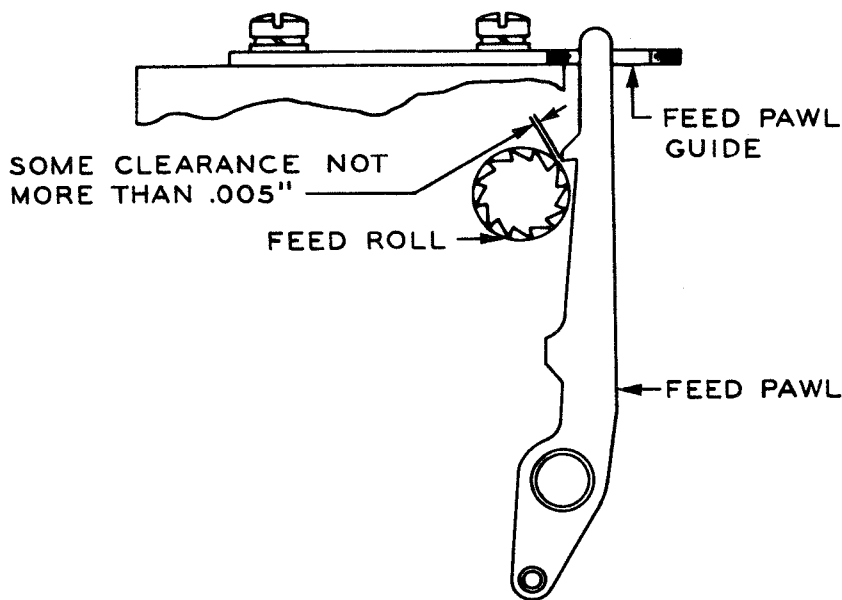

Figure 19
2.39 Feed-pawl Guide: There should be a clearance as specified in the figure between the feed pawl and the closest feed-roll tooth when the punch contacts are closed. Check one full revolution of the feed roll while holding the detent roller away from the star wheel. See Figure 19.